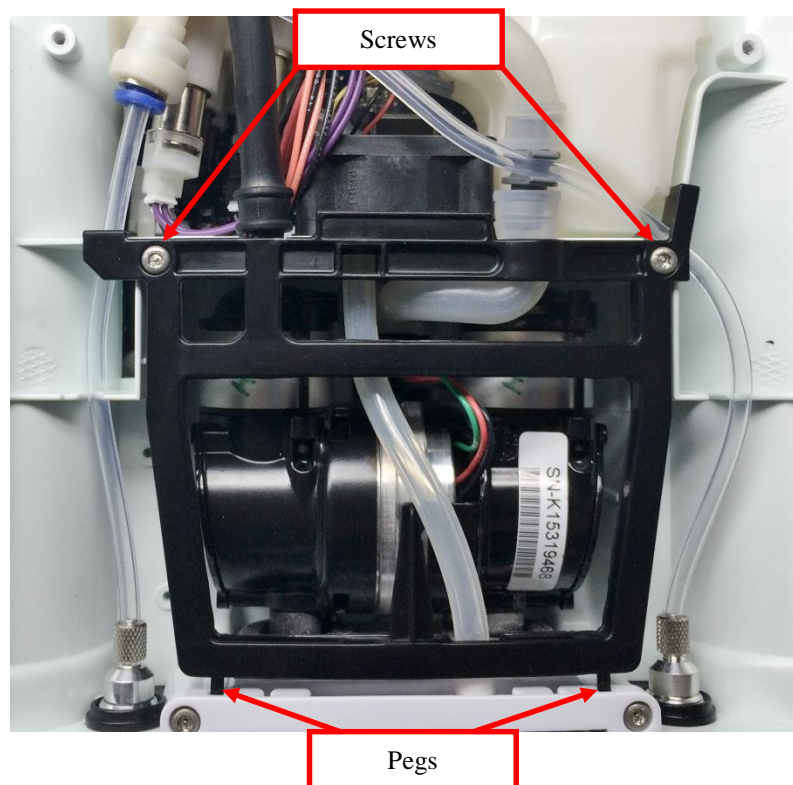

Figure 3: Tube Bracket and Muffler Assembly
1. Remove the two screws holding in the Tube Bracket and Muffler Assembly. Then slide the bracket pegs out of the chassis (Figure 3).
1. Install the new tube bracket, making sure that the pegs and intake tube are in their respective slots and grooves on the bracket (as seen in Figure 3) before replacing the two screws. Tighten screws to 4 in- lbs.